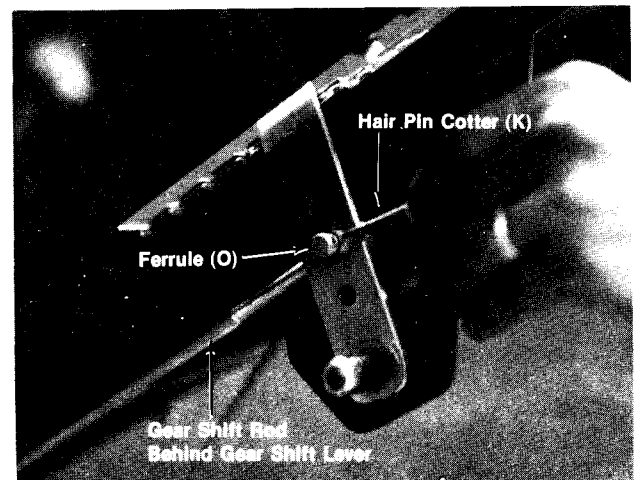

FIGURE 11.
J. Secure ferrule in gear shift lever (as shown in figure 11) with hair pin cotter (K).